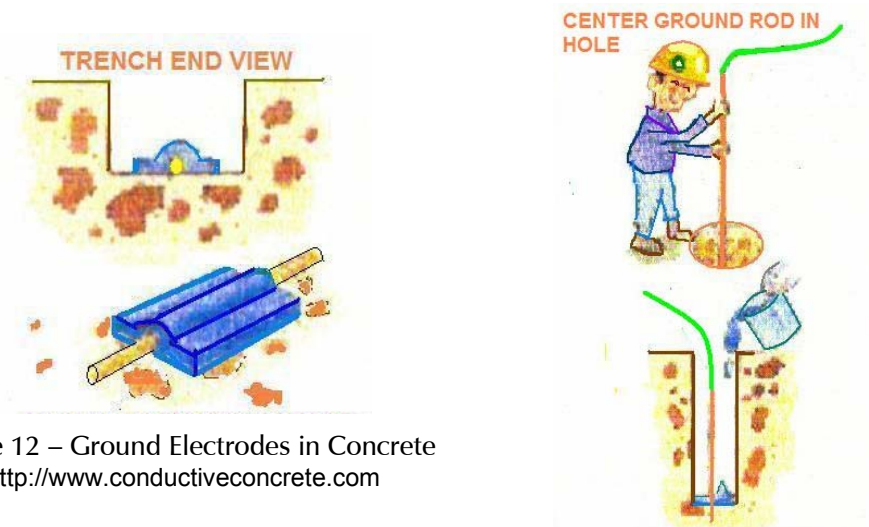

Figure 12 – Ground Electrodes in Concrete
6. Increasing the surface area in contact with the earth, or by using an electrode of greater cross-section of greater length, or by means of a Ufer (an earth electrode buried in concrete). (Fig 12)
The resistivity of various types of concrete varies over at least four orders of magnitude, depending on the formulation and how it is poured. Some concretes are specifically designed to be conductive, and can be used to encase the grounding electrode (Figure 12), thus increasing the surface area in contact with earth. Such an electrode is called a Ufer. Other applications of concrete require that it be the best possible electrical insulator (for example, railroad ties for electric railways). Structural steel encased in concrete can made a part of the ground electrode system simply by thoroughly bonding all elements of the rebar together and bonding from there to the System Ground. See http://www.polyphaser.com/ppc_PEN1030.asp The Engineering Notes on this website are an excellent resource for understanding the engineering issues associated with grounding for lightning protection, especially for radio facilities. Not all of their methods are directly applicable to audio and video systems, but many are.